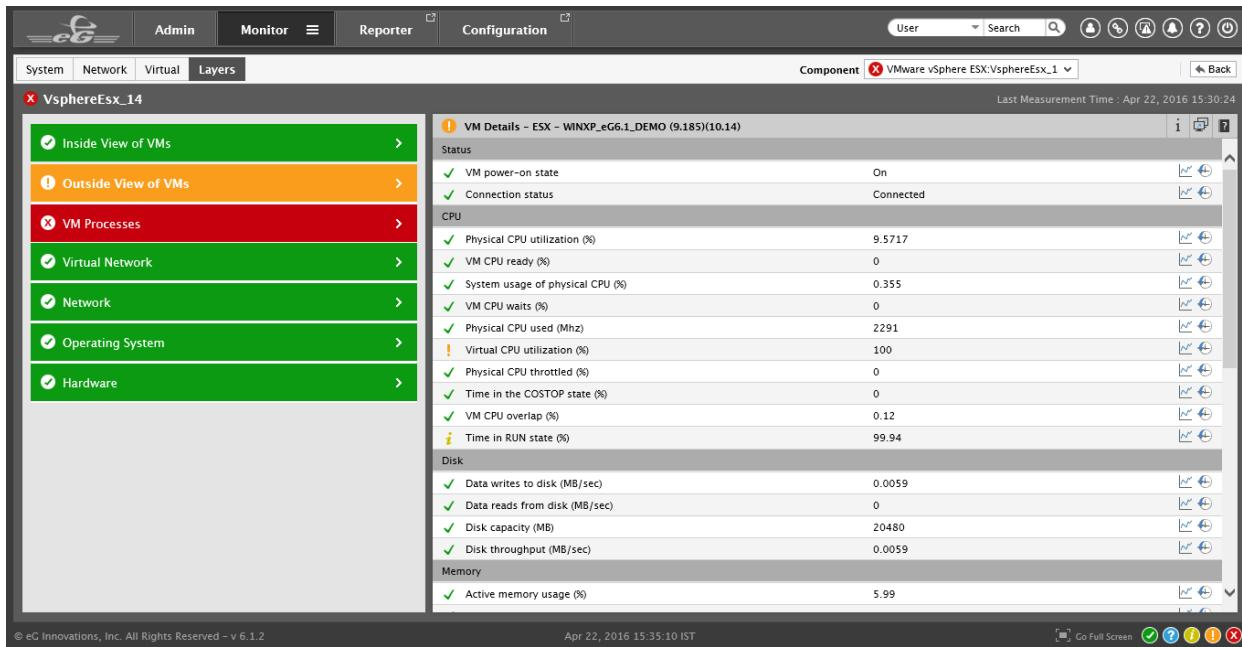

Figure 3.9: Launching the eG monitoring console from the SCOM console
5. If you select a component from the **All Components** view and click the **Diagnose using eG** option in the **Actions** pane, Figure 3.9 will appear.
6. Figure 3.9 reveals the layer model of the component chosen from the **All Components** view, and also displays the problem layer, problem test and problem measures related to that component. This way, you can quickly isolate why the component is in an abnormal state currently.